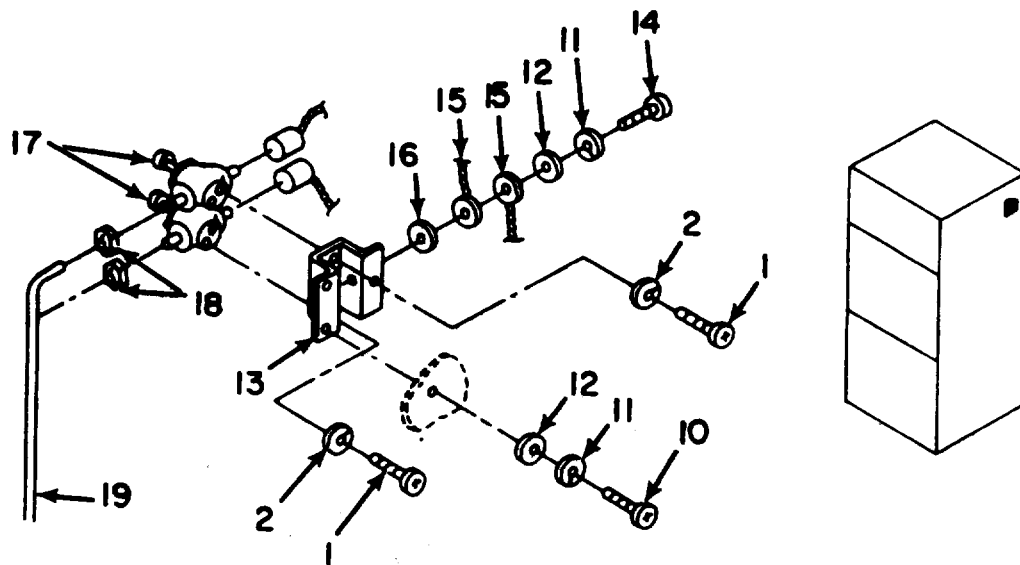

Figure 5-23. Service Valves.
- a. INSPECTION. See Figure 5-23.